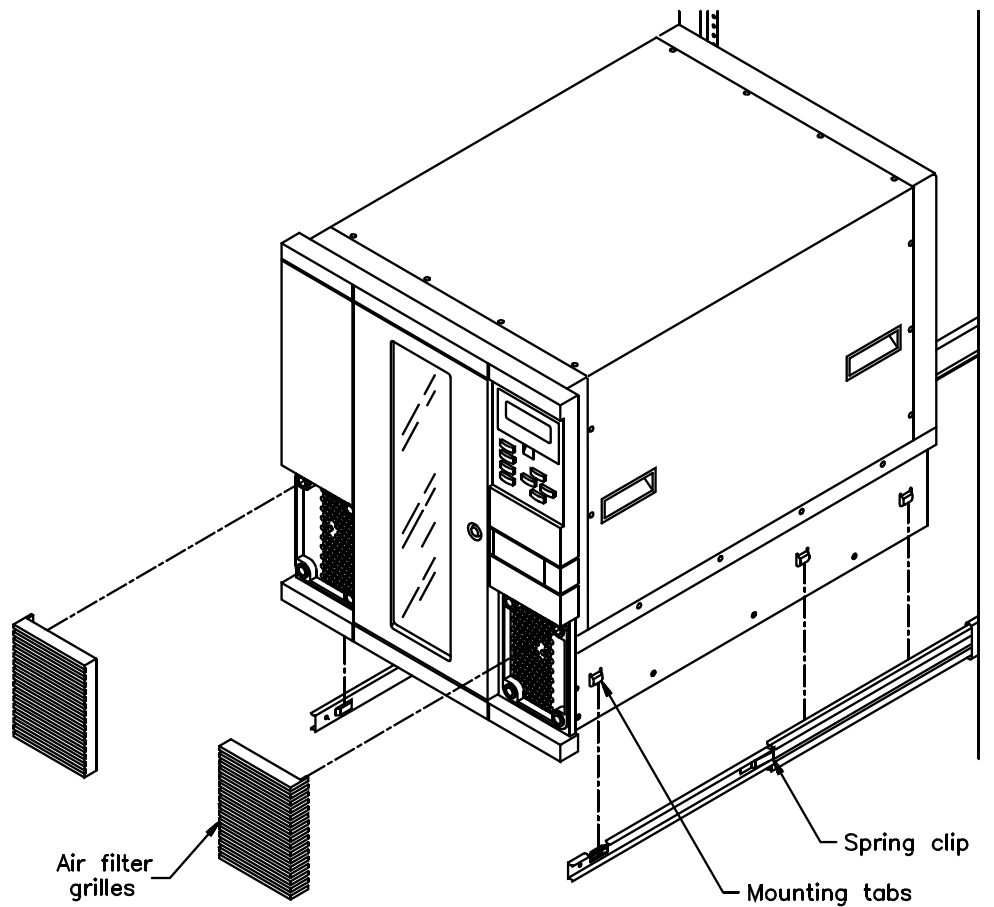

Figure 1-4 Installing the library in a rack
2. Slide the inside rails as far out of the rack as they will go (see Figure 1-4).
3. Remove the air filter grilles from the front of the library by lifting the outside edges and pulling the grilles away from the library (see Figure 1-4).
4. Using four people, or two people and a fork lift, lift the library by the handles and lower it onto the slide rails so the mounting tabs on each side of the library fit into the slots in the rails (see Figure 1-4). Make sure all six mounting tabs are fitted securely into the slots.